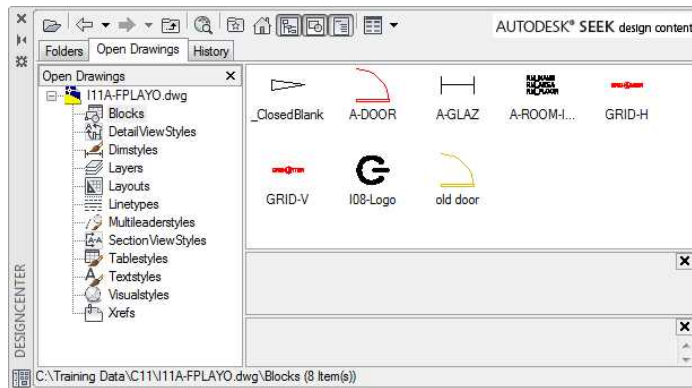

FIGURE 11.28: DesignCenter with the Large Icons view enabled
9. Click the arrow on the Views button in the DesignCenter toolbar, and choose Large Icons as the view option to see a display like Figure 11.28.